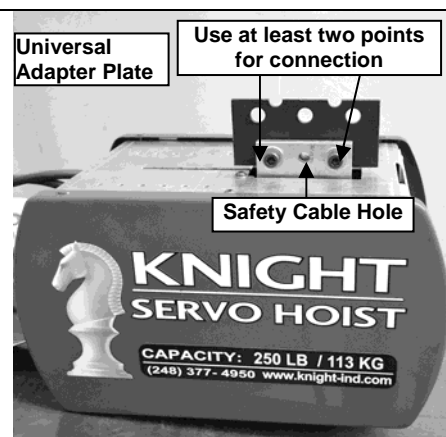

Figure 2-3
Ensure that there is a (2) two point connection when using the universal adapter plate (See Figure 2-3) to hang the hoist from a structure.
- 2) Insert the (2) two M12x50mm or ½-13x1 ¾ socket head bolts and (2) two washers.